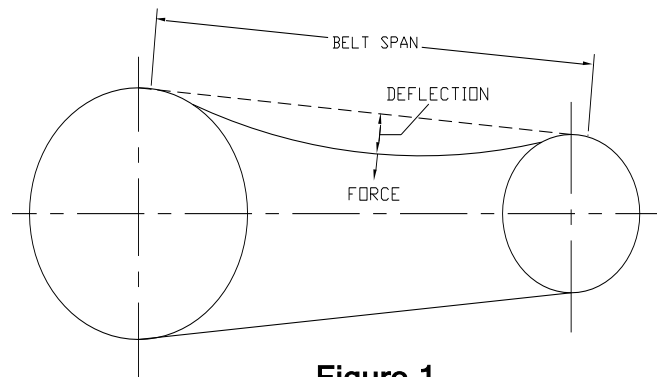

Figure 1
2. Determine the amount of deflection for the belt. With the motor stopped, measure the belt span length (see Fig. 1). The deflection of the belt should be determined as 1/64th of an inch for every inch of span length. For example, the deflection for a 32 inch span would be 1/64 inch X 32, which equals 1/2" inch. Set the tension tool for the calculated deflection.